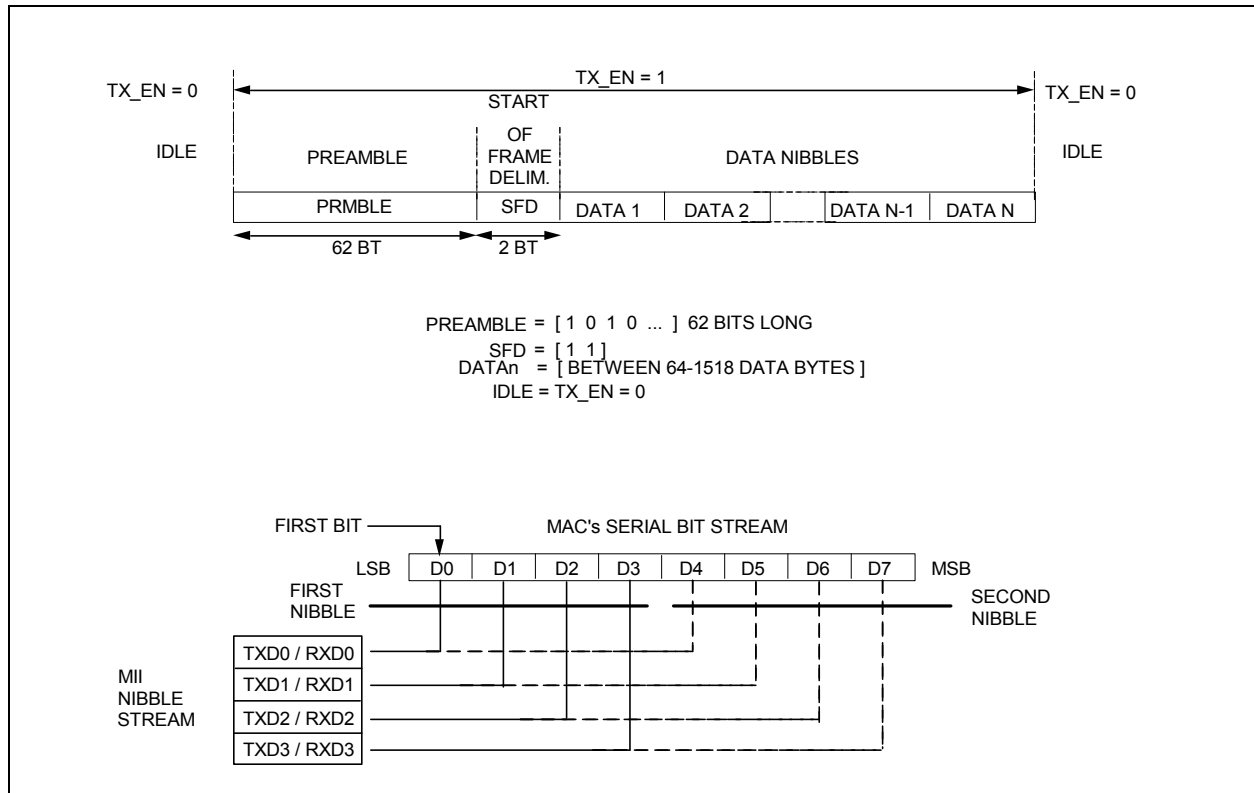

Figure 7.2 MII Frame Format & MII Nibble Order
The MII is a nibble wide packet data interface defined in IEEE 802.3. The LAN91C111 meets all the MII requirements outlined in IEEE 802.3 and shown in Figure 7.2.
Data recovery is performed by latching in data from the TP receiver with the recovered clock extracted by the PLL. The data is then converted from a single bit stream into nibble wide data word according to the format shown in Figure 7.2.
The clock recovery process for 10Mbps mode is identical to the 100Mbps mode except, (1) the recovered clock frequency is 2.5 MHz nibble clock, (2) the PLL is switched from TX25 to the TP input when the squelch indicates valid data, (3) The PLL takes up to 12 transitions (bit times) to lock onto the preamble, so some of the preamble data symbols are lost, but the dock recovery block recovers enough preamble symbols to pass at least 6 nibbles of preamble to the receive controller interface as shown in Figure 7.2.